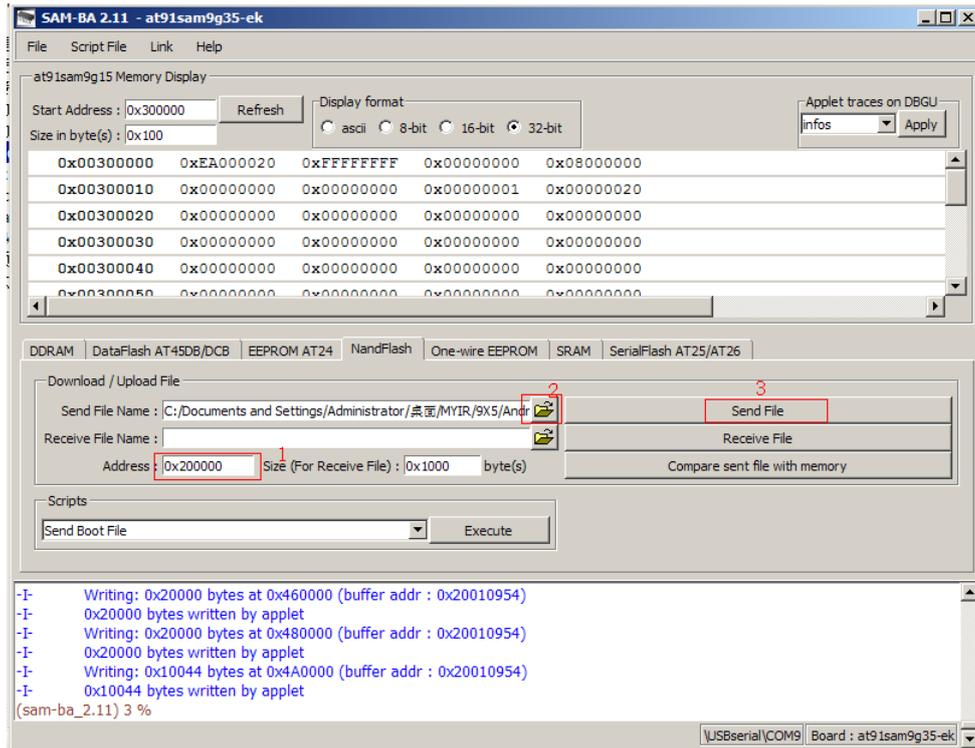

Figure 5-15
(8) Download Linux kernel ulmage to 0x200000. Refer to figure 5-15: